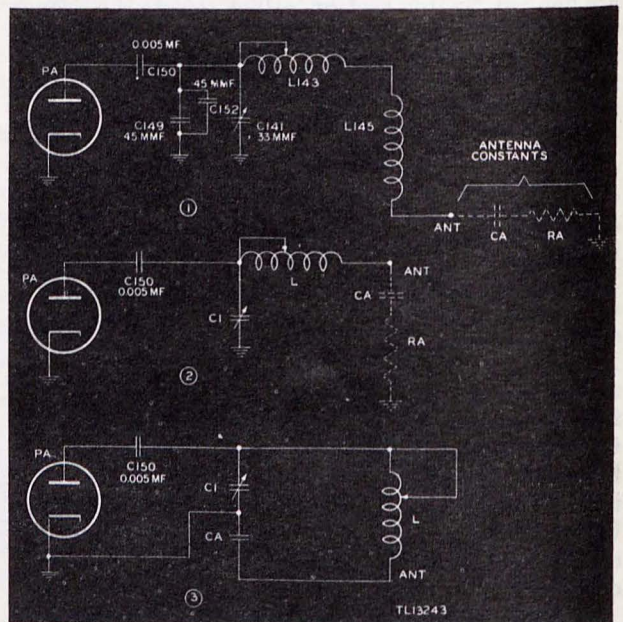

Figure 55. Radio Transmitter BC-653-A, functional diagram of p-a tank circuit.
c. Figure 55 is a functional diagram of the p-a plate-tank circuit. Resistor R179 is eliminated from this functional diagram since it is of low resistance value and is used only to eliminate parasitic oscillations. Capacitor C150 is a blocking capacitor used for coupling the plate to the tank circuit. Figure 55(1) shows capacitors C149, C152, and C141 connected in parallel, and coils L143 and L145 connected in series. Capacitor CA represents the antenna capacitance and resistor RA the antenna resistance. Figure 55(2) shows C1 as a combined capacitor C149, C152, and C141; and L as the combined inductance of L143 and L145. RA may be neglected with regard to tuning because the antenna resistance is very low compared with the capacitive reactance of CA. By rearranging the circuit and eliminating RA, figure 55(3) may be recognized as a parallel resonant circuit whose capacitance is C1 and CA in series, and whose inductance is L. Its capacitance consists of the tuning capacitor and the capacitance of the antenna. Its inductance is p-a tank coil L143 and antenna-loading coil L145.